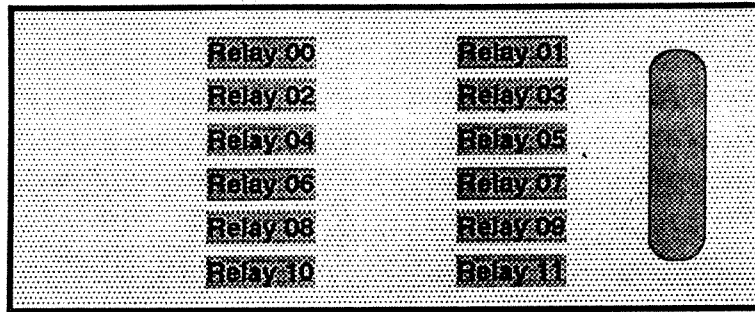

Figure 2
5. Figure 2 identifies each relay on the Relay Board.